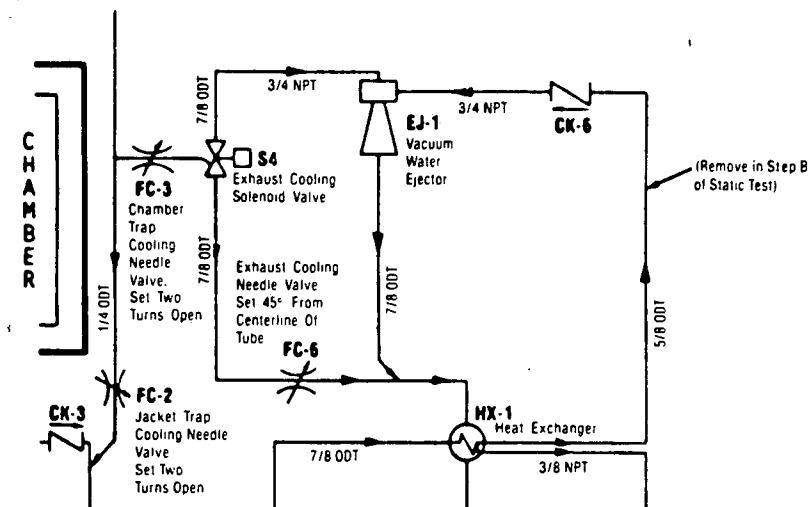

Figure 5-10. EJECTOR VACUUM TEST PIPING.
b. Allow sterilizer to exhaust to approximately 10-inches Hg and disconnect 5/8 ODT (see Fig. 5-10) copper inlet tubing from check valve.
g. If ejector fails test, check water temperature (ensure 85 F or less) and water pressure (ensure 30-50 psi). To check water pressure, install gauge at 1/8-inch plugged opening (see Fig. 5-10) on solenoid valve (S4).